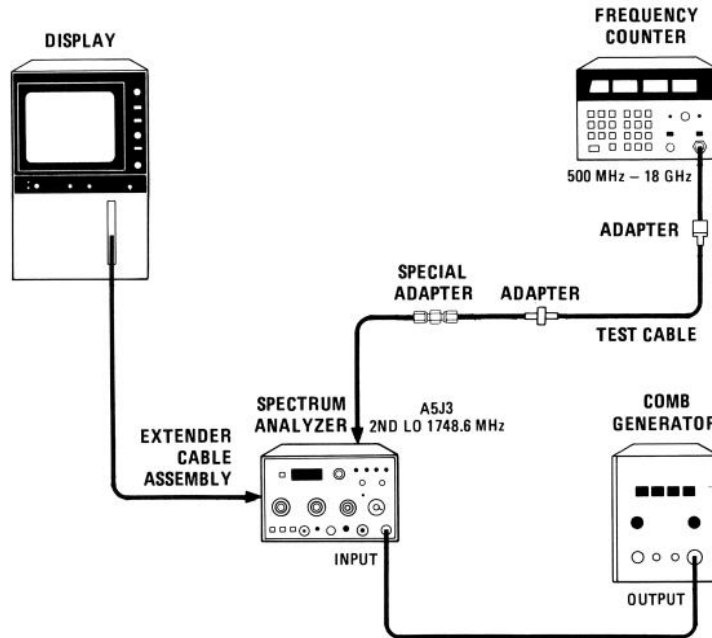
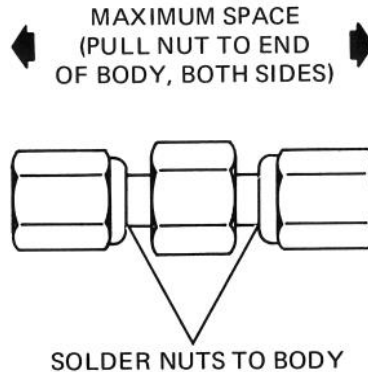

FIGURE 5-1. SECOND CONVERTER LO AND BANDPASS ADJUSTMENT TEST SETUP
FIGURE 5-2. SPECIAL ADAPTER USED IN SECOND CONVERTER LO AND BANDPASS TEST SETUP
Special Adapter	See Figure 5-2
The special adapter in Figure 5-1 is made from a SMC (f) to SMC (f) adapter, HP Part No. 1250-1113. The nuts must be soldered to the body of the subminiature RF adapter so they will both turn with the body. Be sure to space the nuts properly before soldering (see Figure 5-2).
2. Connect equipment as shown in Figure 5-1 and switch display mainframe power ON. Connect counter to A5J3 at the top of A5 Converter Assembly. Connect comb generator to HP 8558B INPUT.